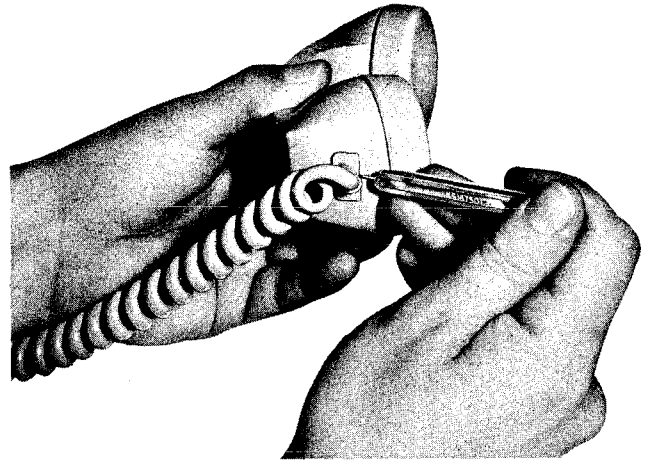

Fig. 4 — Removing Handset Cord from G12A Handset
- (1) Use KS-16750, List 3 releaser or equivalent.
- (2) Insert tool in slot above body of plug (Fig. 4).
- (3) Apply pressure against spring clip toward body of plug.
- (4) When spring has been compressed, pull plug out of jack.
- (5) Connect new cord as outlined in Part 2(a).